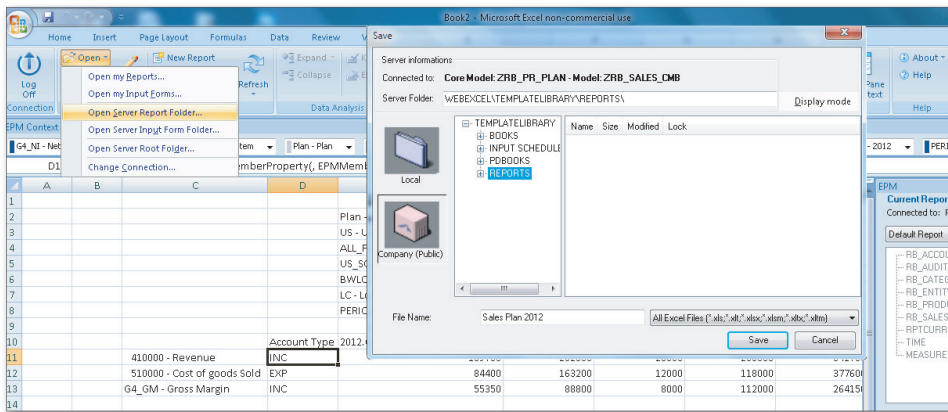

Figure 5.20 Saving a Report
1. Under the OPEN command, select the OPEN SERVER REPORT FOLDER (Figure 5.20). This opens the SAVE dialog box.